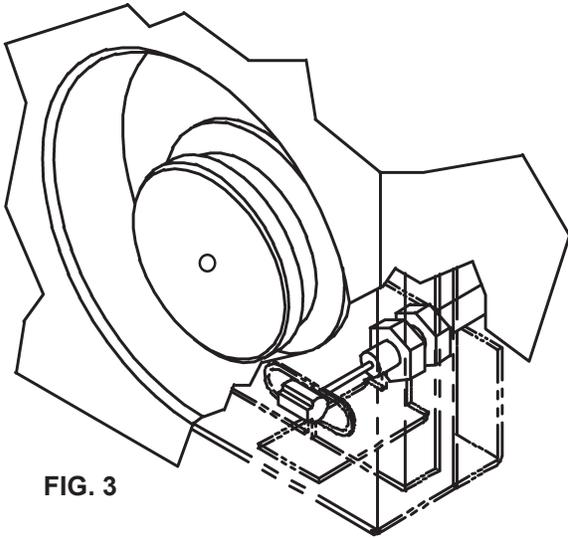

FIG. 3
1. Assemble the operating cable to the fountain bracket. (Fountain should be mounted to exterior wall). The adjustment nuts should be in the middle of threaded area on the operating cable. See Figure 3. Create a loop in the cable and thread the free end of the cable through the wall into the freeze resistant box.